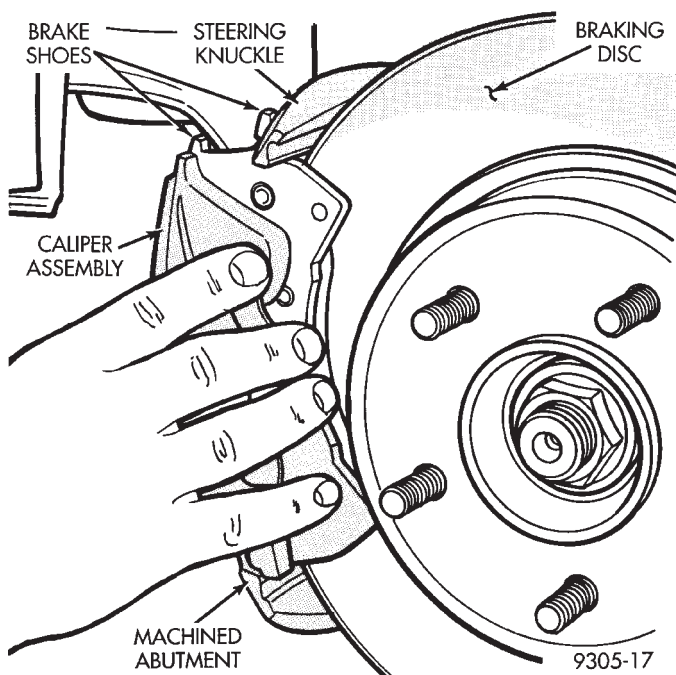

Fig. 16 Disc Brake Caliper Mounting
(11) Install front brake caliper back over braking disc and align with caliper mounting holes on steering knuckle (Fig. 16). Refer to Front Disc Brake Service in